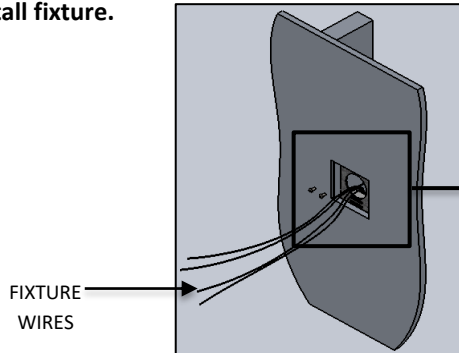

FIG. 19 DRIVER PLATE RE-ASSEMBLED
11. Reattach DRIVER PLATE with the screws provided as shown in FIG. 19 and 20.